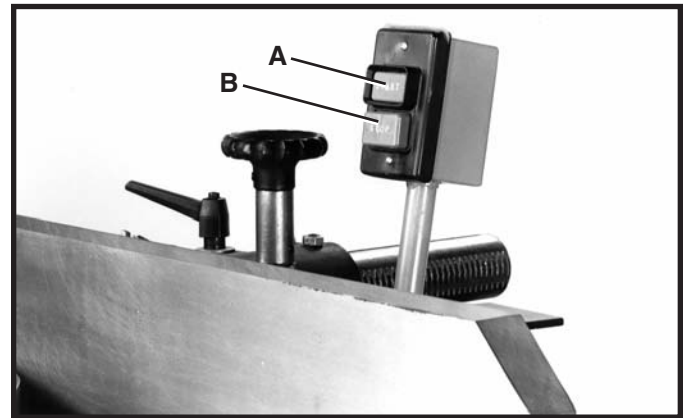

Fig. 18
The start-stop switch is conveniently located on a post, behind the jointer fence, for easy accessibility. To start the machine, simply press the start button (A) Fig. 18, and to stop the machine, press the stop button (B).